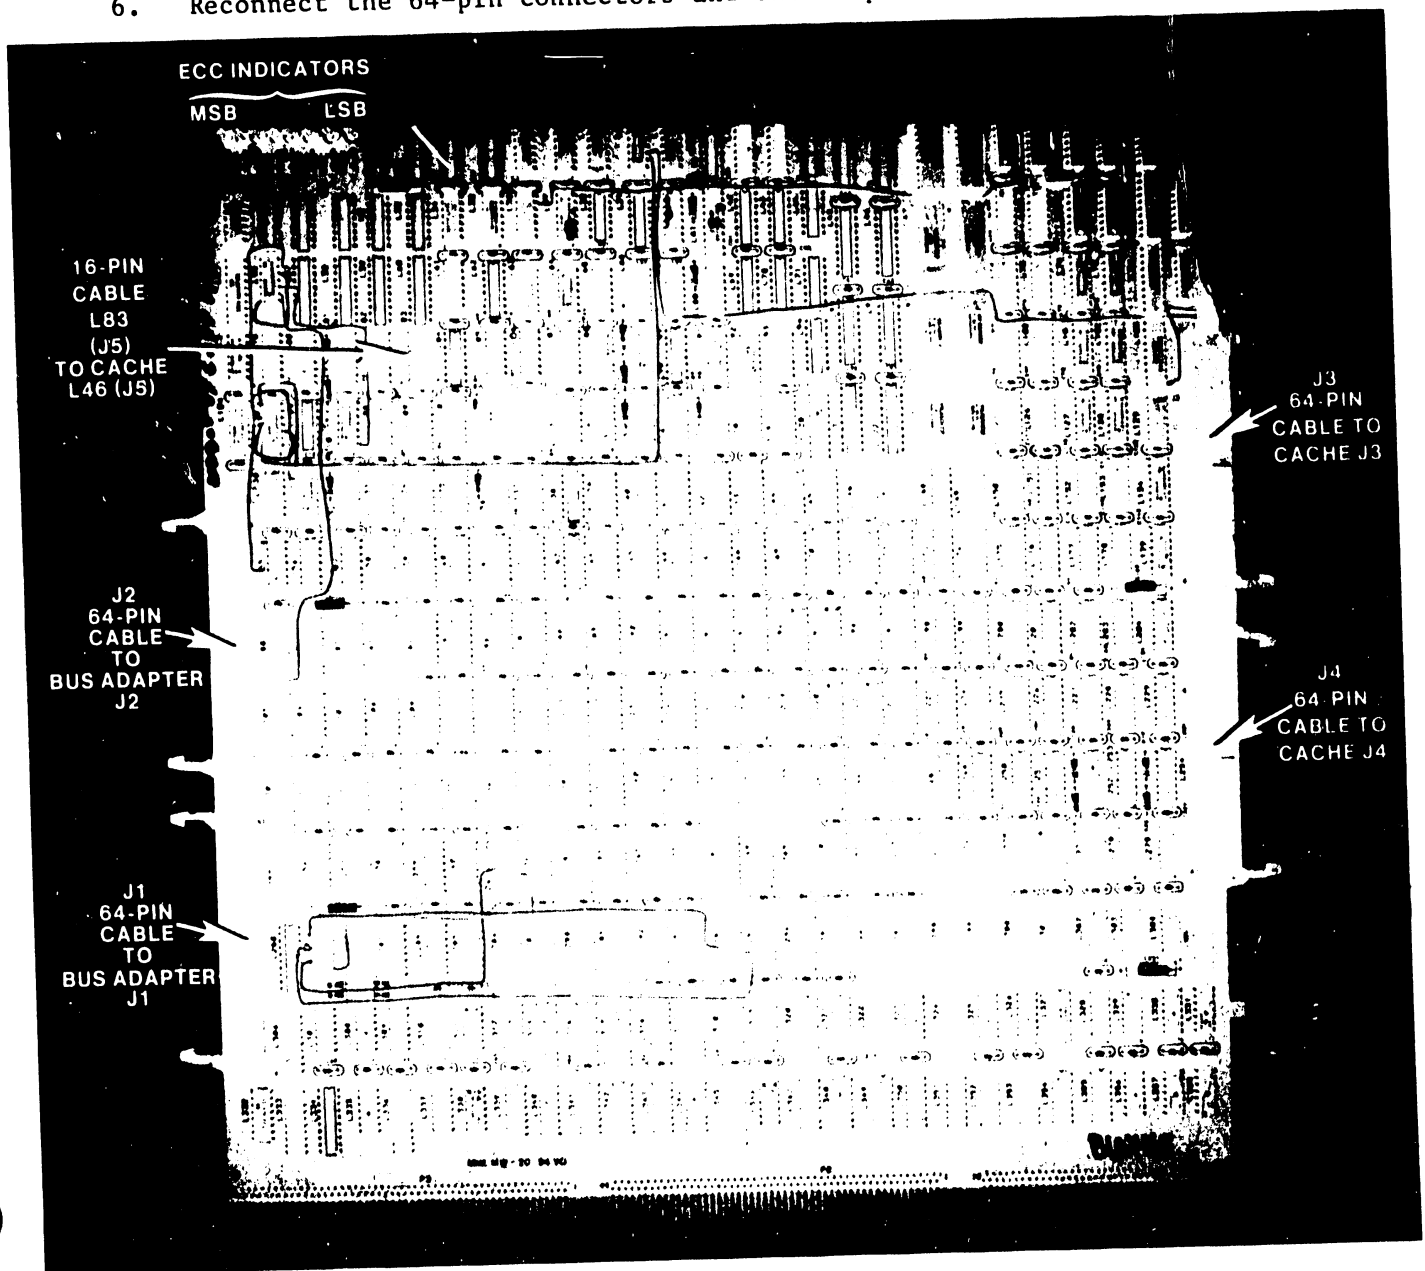

Figure 5-15. 210-7605 System Bus Controller Board
1. If the system has a System Bus Controller board (figure 5-15) in Motherboard slot #5, lower the fan assembly as described in paragraph 5.3.5.22. Remove the two Phillips screws securing the hinged cover over the fan safety screen inside the cabinet. Raise the cover, remove the screen, and turn the vertically mounted air flow baffle to the right. This allows access to the connectors on the rear of the circuit boards.